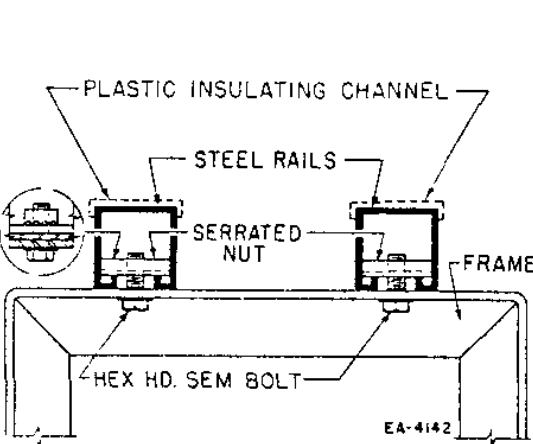

Fig. 1 Mounting of steel rail to frame. (Plastic Insulating Channel applied later.)
d. Locate the steel rails on the frames so that the overhang of the two rail ends beyond the frames, is equal. Line up the holes in the frames so that the open slot of the rail is above the holes. Bolt rail to frame by locating serrated nut in rail slot, and insert SEM bolt through hole in frame and engage serrated nut (Fig. 1, page 2). Tighten with a wrench. Make sure that floor and rack are level.
e. Apply the plastic insulating channels to tops of rails (Fig. 1). No adhesive or liquid is needed, as the channels make a snug fit. The channels are supplied in 3- and 4-ft. lengths which can thereby take care of any length of rail, by combinations of 3 and 4, except the 5-ft. rail. With the 5-ft. rail, one or more of the pieces will need to be cut with shears or knife, to match the rail length.